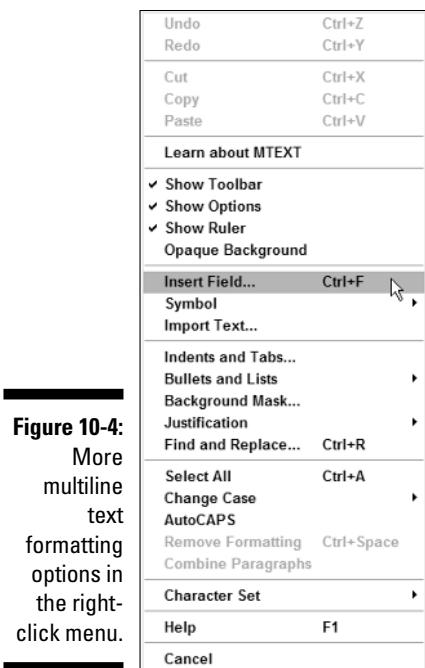

Figure 10-4:
- If you want other formatting, select text, right-click, and choose the appropriate option from the menu (as shown in Figure 10-4).